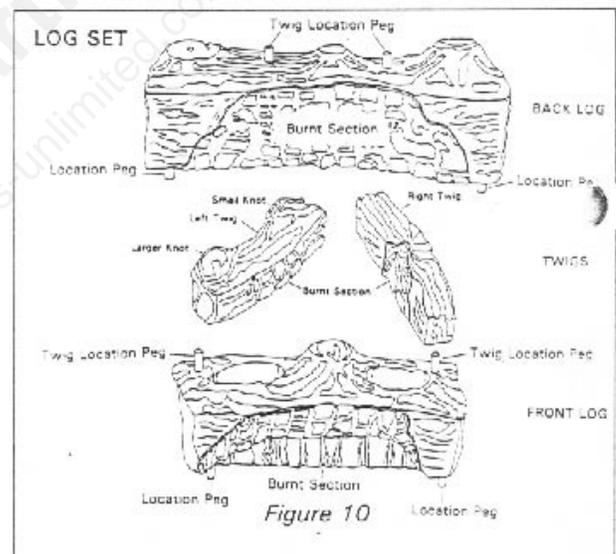

Figure 10
The log set for the ENVIROGAS is shipped in a separate carton contained in the pedestal. Check to ensure there is no damage to any of the four (4) logs. It is very important to install these logs in their proper position to insure safe operating conditions. (SEE LOG PLACEMENT Figure 10)
5. Place the two cross logs on the positioning pegs according to the diagram shown above.(Figure 10)